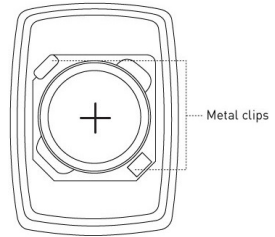

Figure 5
2. Place a small flathead screwdriver in the slot between the metal clip (see *Figure 5*) and the battery and twist the screwdriver slightly while holding back one of the black plastic edges holding the battery.
3. Insert the replacement battery with the + sign facing out (see *Figure 5*).
WARNING! The polarity of the battery must be observed, as shown (see *Figure 5*). Improper handling of lithium batteries may result in heat generation, explosion or fire, which may lead to personal injuries. Replace only with the same or equivalent type of battery as recommended by the manufacturer. (see *Specifications*)